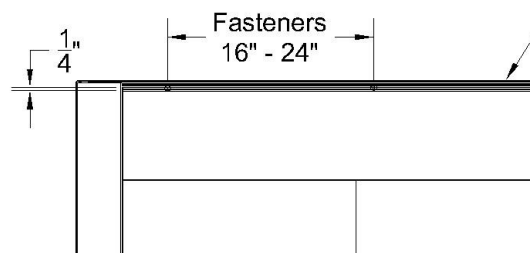

Fig. 2
4. Install the last piece/course of siding per the installation instructions. Use required seam brackets on courses exceeding 12'. No face nailing is required; panel fasteners will net at the top of the panel. (Fig. 2)